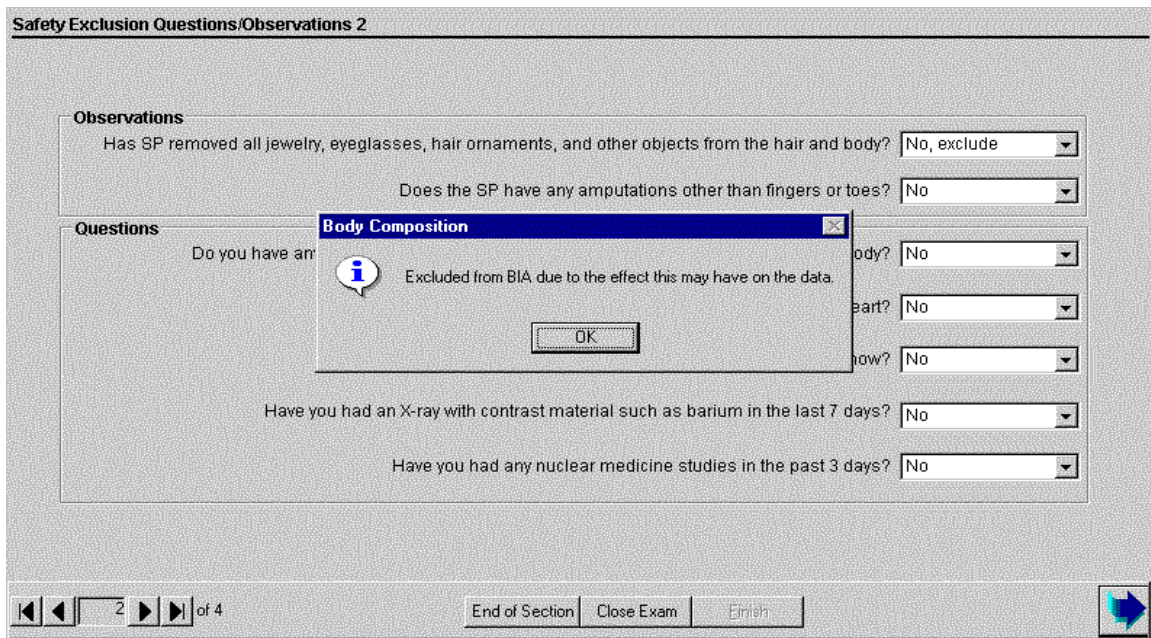

Figure 4-15. Safety/exclusion questions
- If **'No, exclude'** is selected, the system will display a message: 'Excluded from BIA due to the effect this may have on the data.' See Figure 4-15.